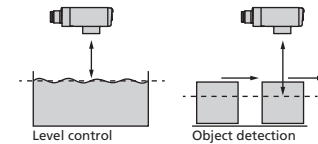

Fig. 2: Teach-in for different directions of movement of the object
- In the »Set switching point – method A« Teach-in procedure the actual distance to the object is taught to the sensor as the switching point. If the object moves towards the sensor (e.g. with level control) then the taught distance is the level at which the sensor has to switch the output (see Fig. 2).
- If the object to be scanned moves into the detection area from the side, the »Set switching point +8 % – method B« Teach-in procedure should be used. In this way the switching distance is set 8 % further than the actual measured distance to the object. This ensures a reliable switching distance even if the height of the objects varies slightly, (see Fig. 2).